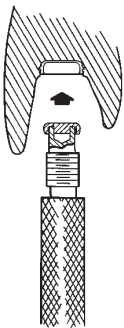
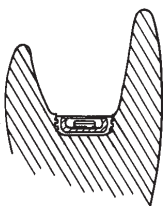

Fig. 10
Fig. 11
9. The Locator Male Seating Tool (contained in Locator Core Tool, Zest order No. 8393) is used to firmly push a Locator Replacement Male into the empty metal denture cap. (Fig. 10) The Replacement Male must seat securely into place, level with the rim of the cap. (Fig. 11) Use of multiple Locator attachments (3 or more) in the same dental arch may require use of the 1.5 lbs. (extra light retention) blue colored Replacement Male No. 8529, in combination with 0.0 lbs. (non-retentive) gray colored Replacement Male No. 8558, for easier removal of the prosthesis by the patient.